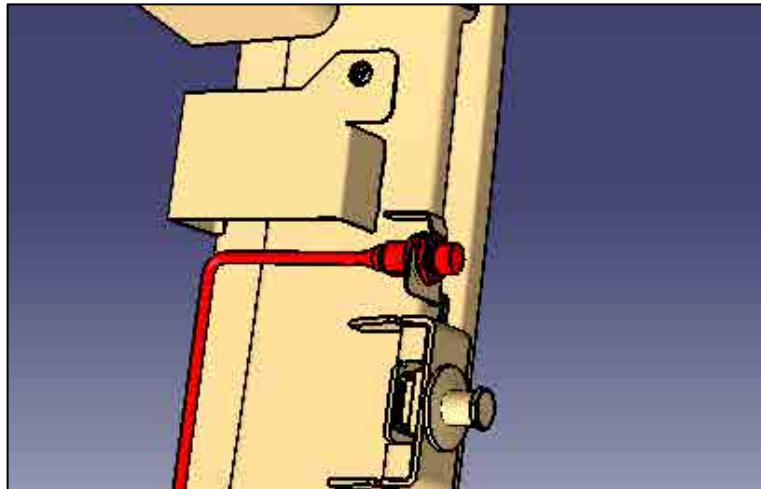

Figure 17
15. Locate the proximity switch on the left hand hinge jamb. (Figure 17)